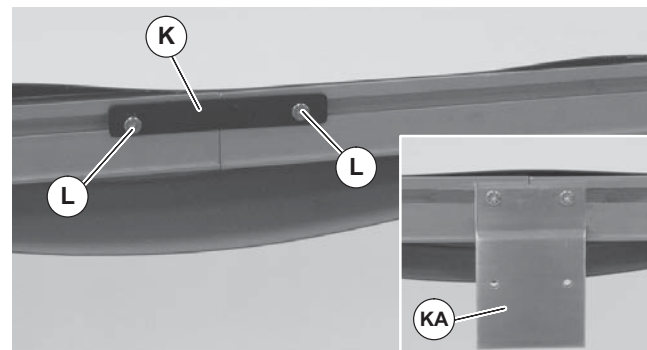

Figure 5
5. Join conveyor sections and install connector brackets (Figure 5, item K) or connector/mount brackets (KA) and screws (L) on both sides as indicated. Tighten screws to 60 in-lb (7 Nm).